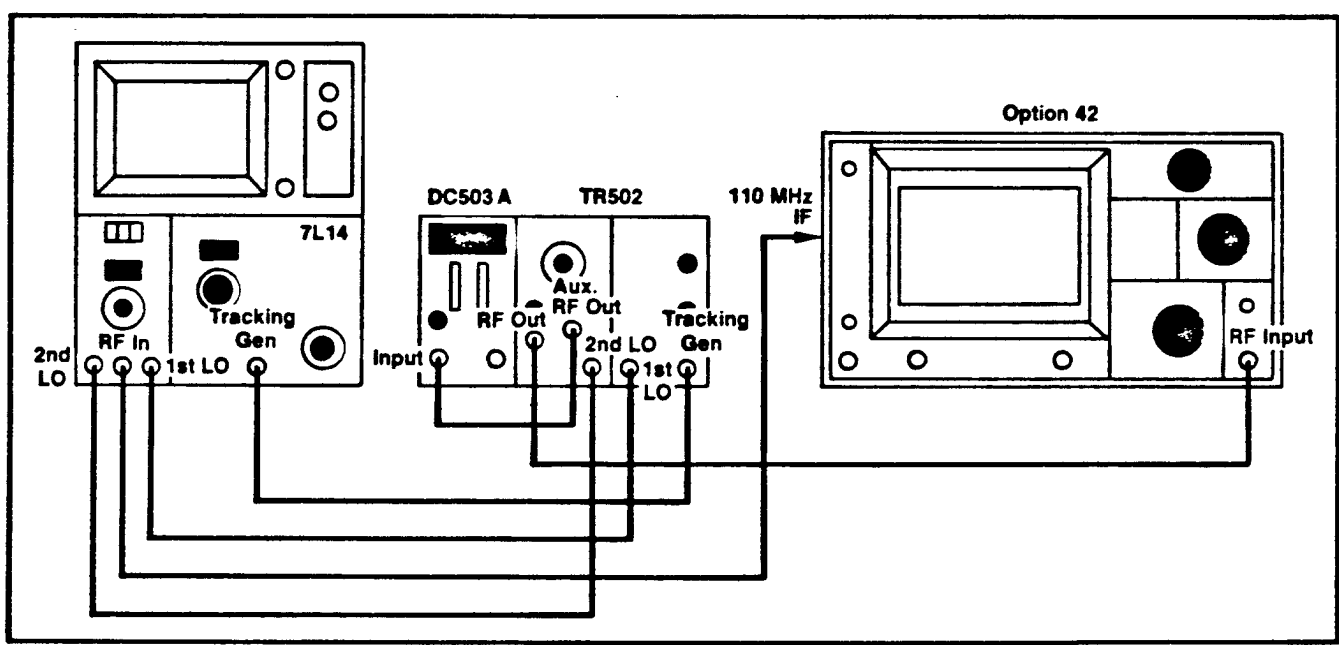

Fig. 3-21A
- a. Connect the test equipment as shown in Fig. 3-21A.